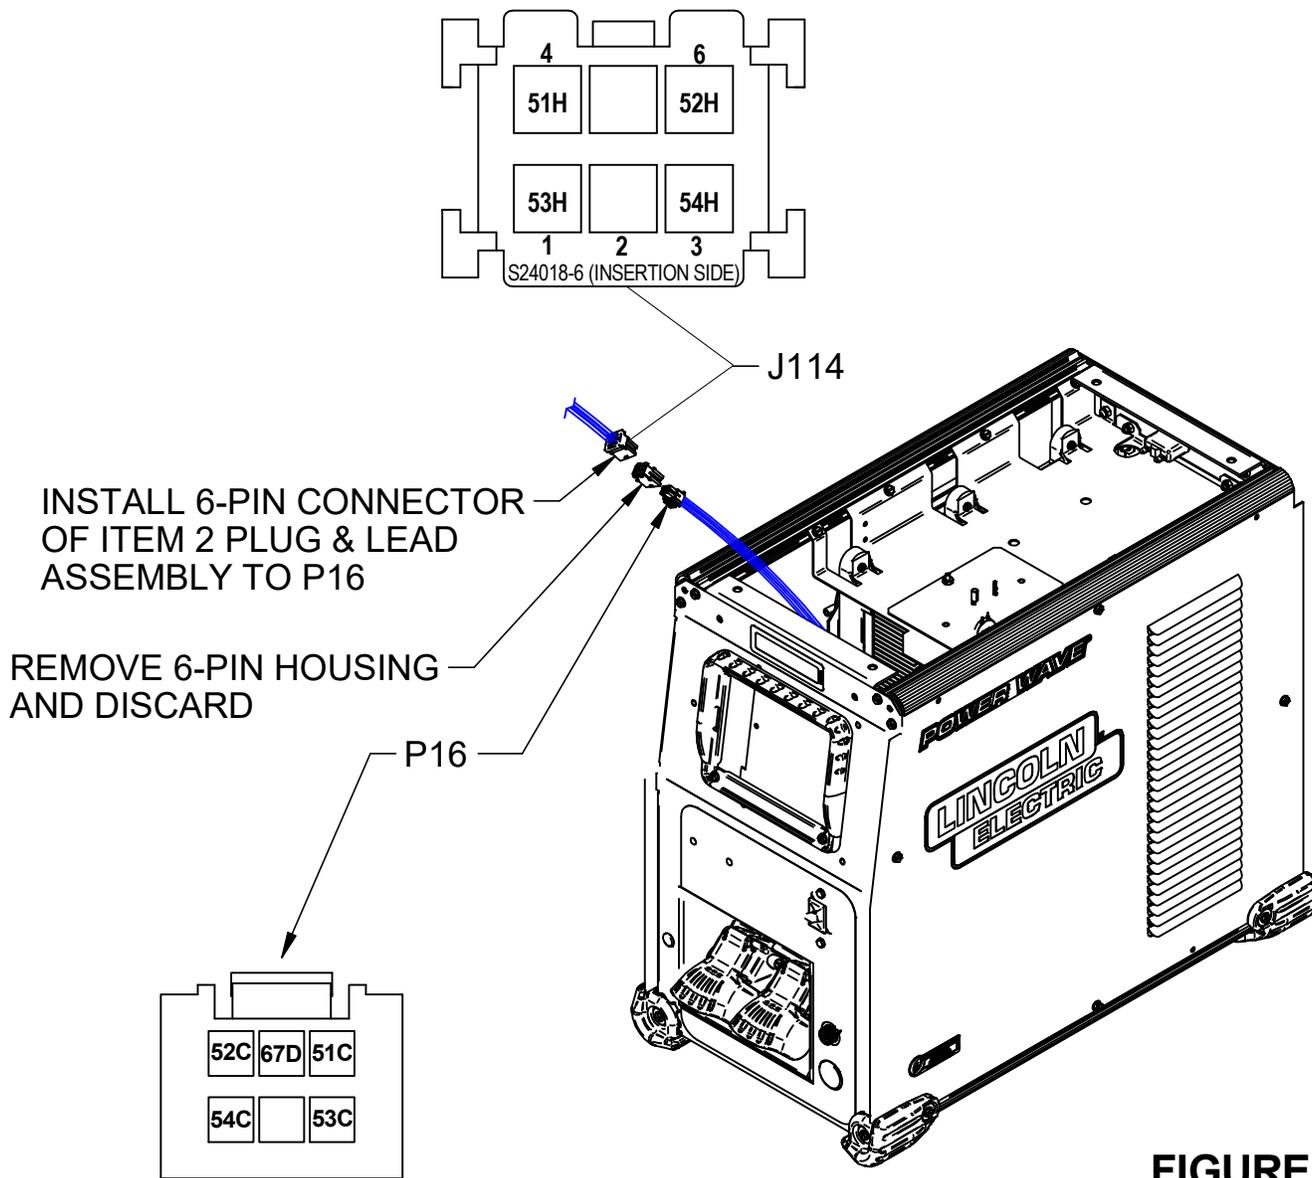

FIGURE 5
7. Locate P16 on Power Wave 500 (Figure 5). Remove 6 pin housing from P16 (empty housing secured to P16 on Harness, if present), and discard. Obtain Item 2 Plug & Lead assembly. Install 6 pin connector of Item 2 Plug & Lead assembly to P16.